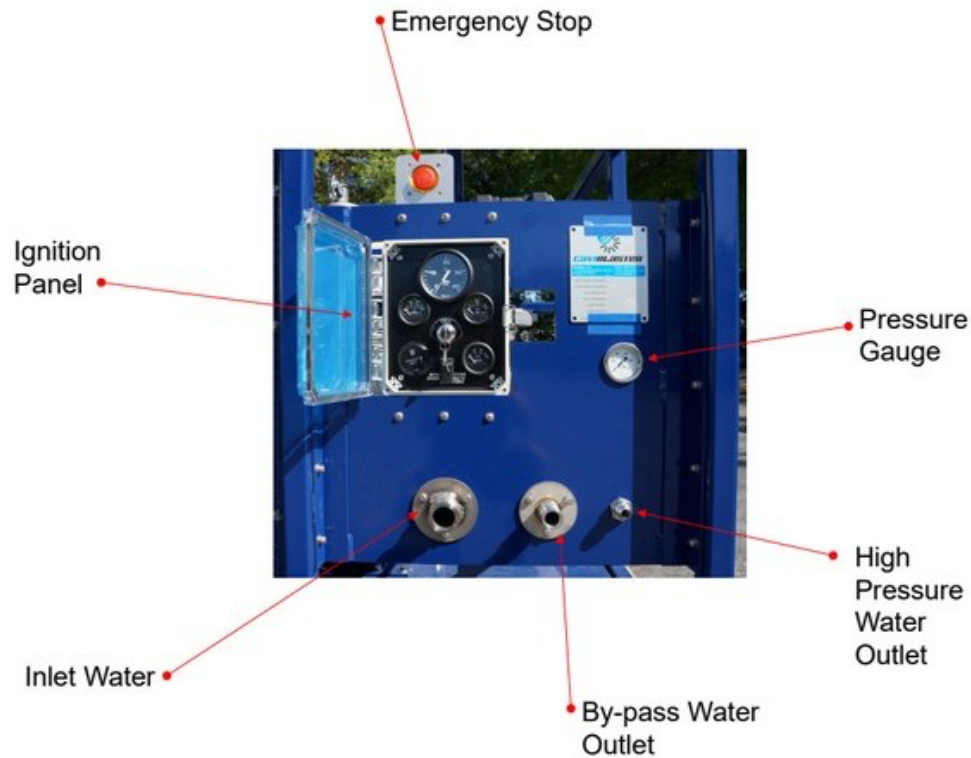

Figure 5.1 – Engine Shut Down and Throttle Up Control
8. Throttle the engine completely by activating the throttle run switch at the control panel. (See **Figure 5.1**).
1. Engage the pressure pump by pulling the PTO lever (See **Figure 5.2**) to the “ON” position to engage the clutch. Push the Throttle Up switch on the control panel (See **Figure 5.1**).
1. Adjust the engine speed to idle by pushing the throttle switch to idle position (See **Figure 5.1**).
3. Turn the Ignition Key to the Off position (See **Figure 5.1**).